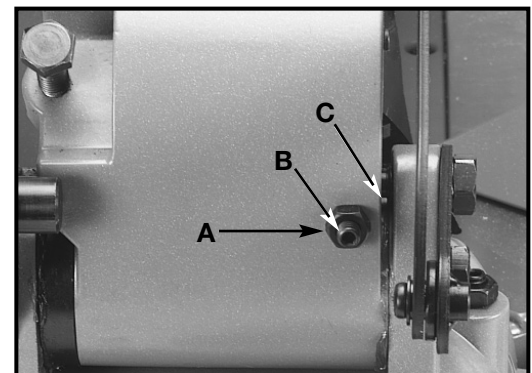

Fig. 29
- The downward travel of the saw blade can be limited to prevent the saw blade from contacting any metal surfaces of the machine. This adjustment is made by loosening locknut (A) Fig. 29, and turning adjusting screw (B) in or out until other end of screw (B) contacts stop (C) at the full downward travel of the saw blade.
- Lower the blade as far as possible. Rotate the blade by hand to make certain the teeth do not contact any metal surfaces and adjust if necessary. After adjustment is completed, tighten locknut (A) Fig. 29.